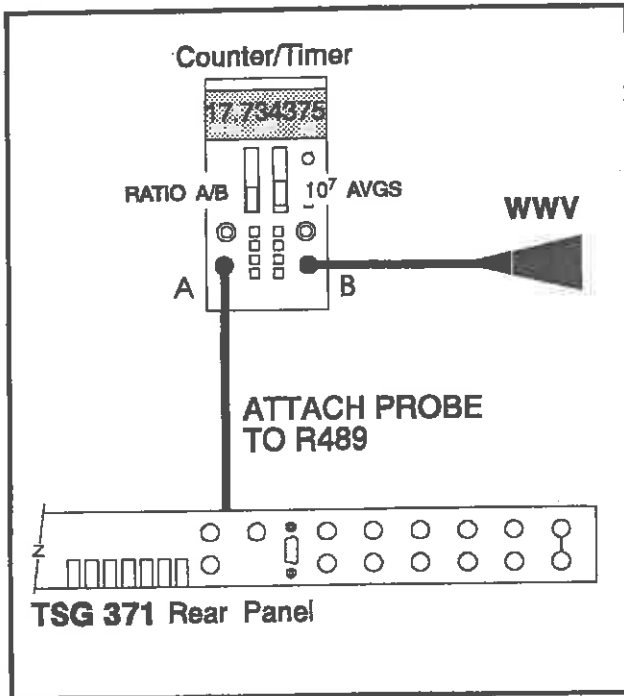

Fig. 5-16. Checking Subcarrier Frequency.
- a. Connect the equipment as shown in Fig. 5-16. Confirm that there are no connections to the TSG 371 outputs.